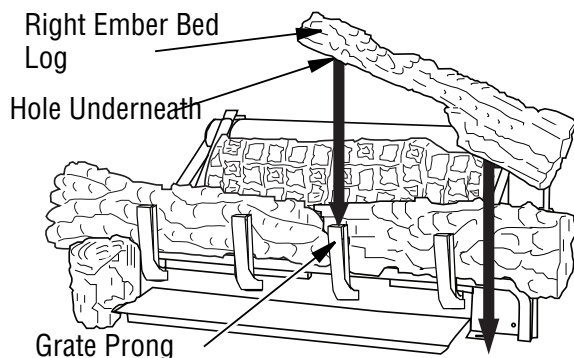

Figure 33 - Installing Right Ember Bed Log
- The right ember bed log has a hole in the bottom that sets on the grate finger and the other end rest on the fireplace floor, place log as shown in **Figure 33, Page 23**. The back side of this log needs to rest against the front of the base assembly, make sure the flame from the ember pan does not touch the ember bed log.